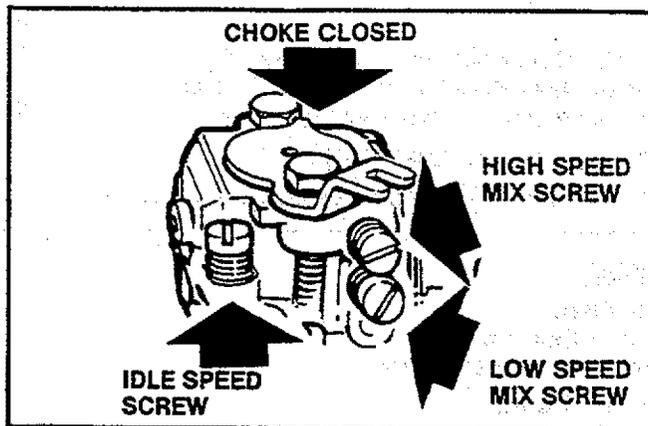

Figure 51
- f. Find the three (3) carburetor adjusting screws. Figure 51.